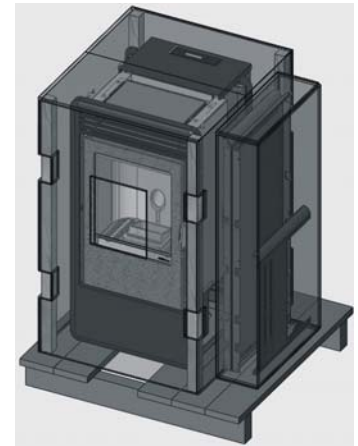

Figure 1 – Stove packaging + steel sides Kaika stove
- Side and top packaging (Fig.1) for Kaika oven whereas the cast iron top of the Kaika stove is already positioned on the stove